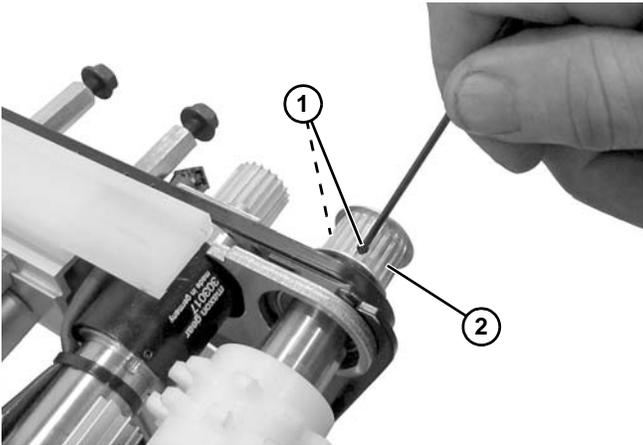

Figure 65
8. Loosen two set screws (Figure 65, item 1) on driven pulley (Figure 65, item 2), and slide off of shaft to remove.